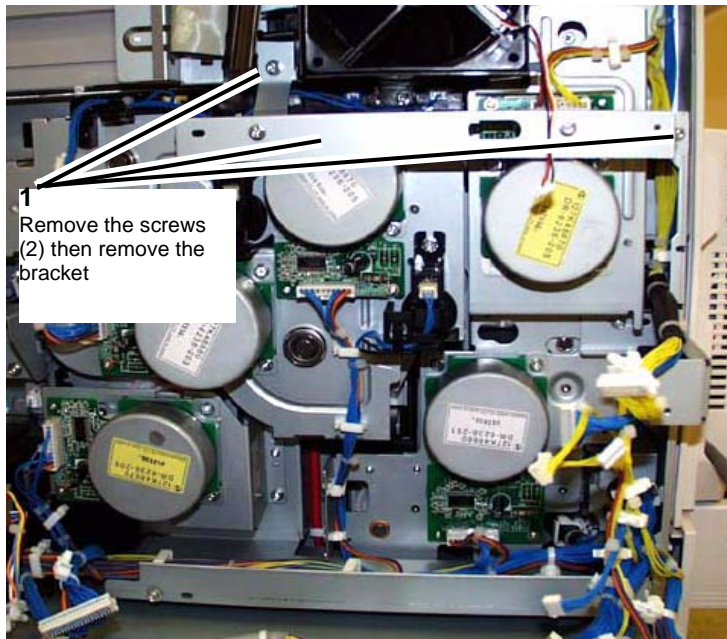

Figure 1 Removing the support bracket
4. Remove the support bracket. (Figure 1)